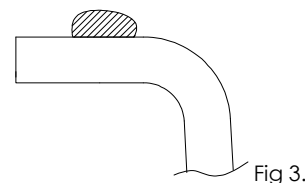

Fig 3.
7. Clean the outside rim of the sink and the worktop underside to remove any dirt or grease, allow to dry. Apply a continuous generous bead of good quality silicone onto the rim around the upper perimeter of the sink as shown in fig 3.